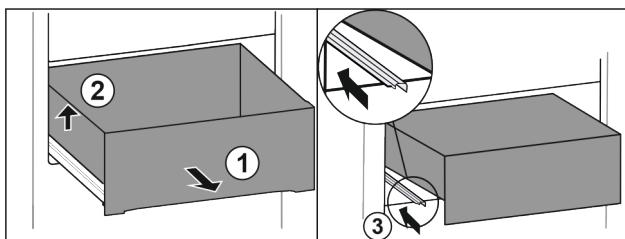

Fig. 17
- ▶ Pull out drawer as far as it will go. Fig. 17 (1)
- ▶ Lift drawer on the left. Fig. 17 (2)
- ▶ Slide in left rail. Fig. 17 (3)